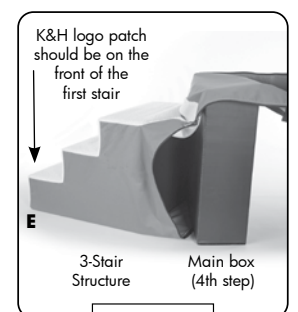

Figure 15
**13** Pull the cover over the 3-stair structure completely covering it. **See Figure 15.** Zip closed.
Now close the **MAIN BOX** that originally stored **PANEL 1** and **PANEL 2**. Lay the 3-stair structure down flat and insert the main box (4th step) into the end of the cover and pull the cover over both structures completely. **See Figure 15.** Zip closed.